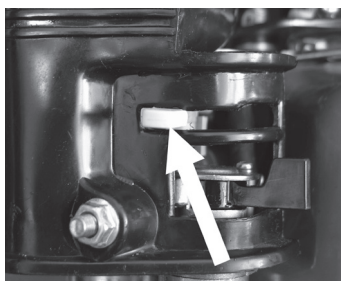

Fig. 8
3. Set the choke lever to the left to the ON position (Fig. 8). It is not necessary to engage the choke for starting a warm engine or at high ambient temperatures.